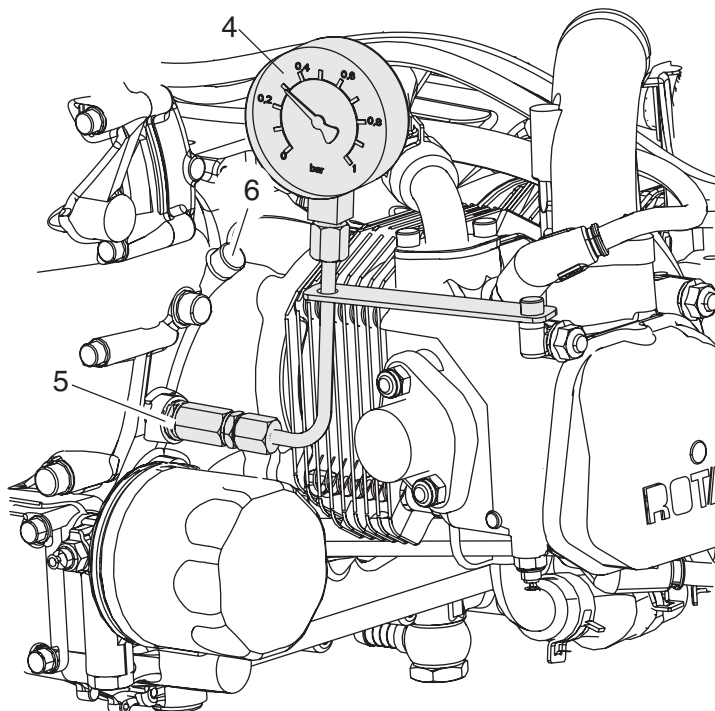

Fig. 42
A pressure indicator (4) (pressure gauge with incorporated viscous damper) may be fitted instead of the magnetic plug (5) or the crankshaft locking screw (6) (see Fig. 42).